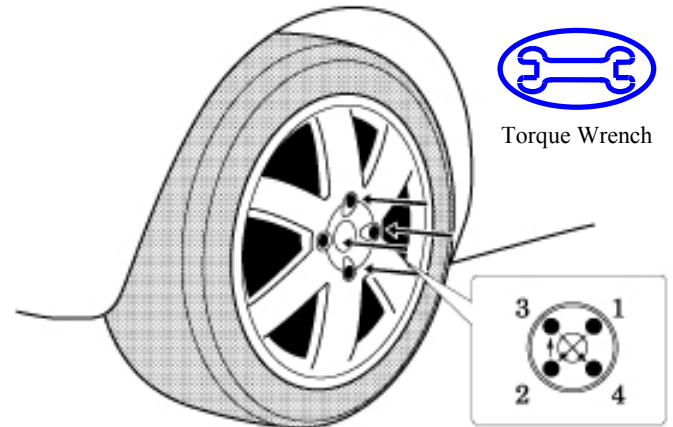

Fig. E-1
- ➔ 1. Install wheel/tire assembly on vehicle. Hand start the lug nuts during installation. Tighten lug nuts in sequence 1 through 4 (Fig. E-1). Ensure that the socket does not scuff the wheel. Tighten to 76 lbf•ft (103 N•m) using a torque wrench.